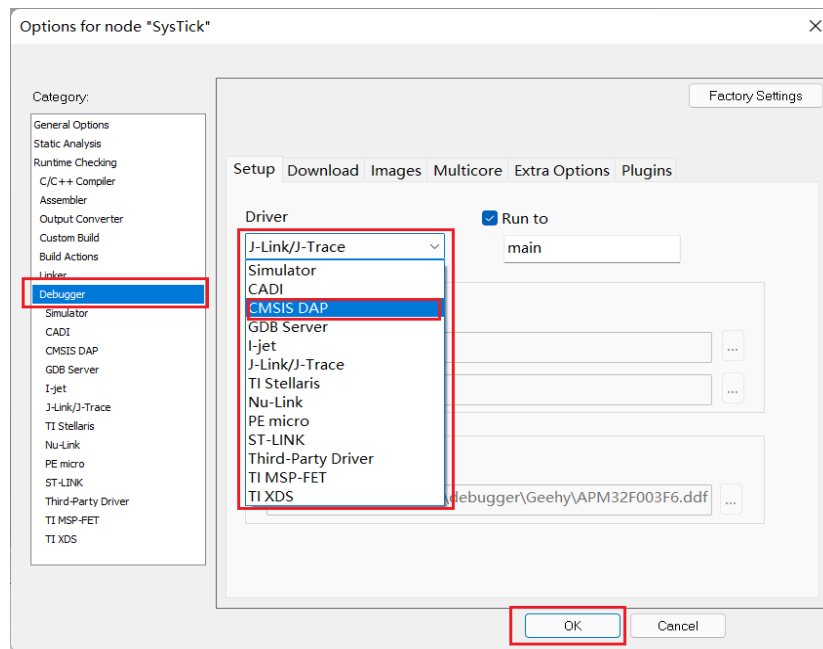

Figure 14
- b) As shown in Figure 14, select "CMSIS DAP" simulator in "Debugger" and click "OK".